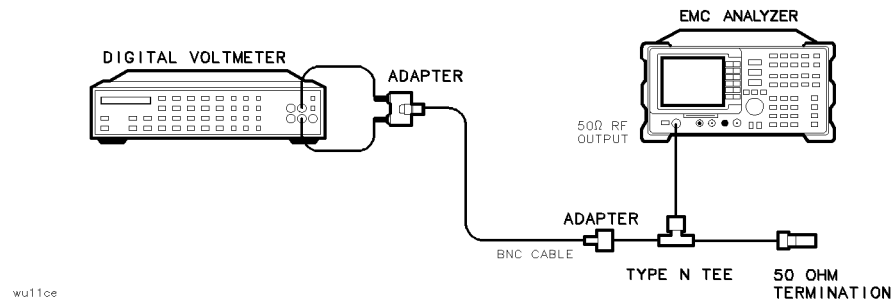

Figure 2-78.
13. Disconnect the Power Sensor from the RF OUT 50 Ω and connect the equipment as shown in Figure 2-78.